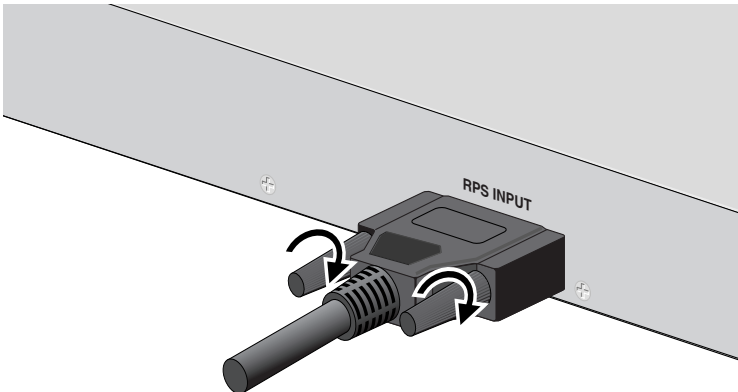

Figure 12. Securing the RPS Cable to the Switch
6. Tighten the thumb screws on the connector to secure the cable to the switch (see Figure 12).